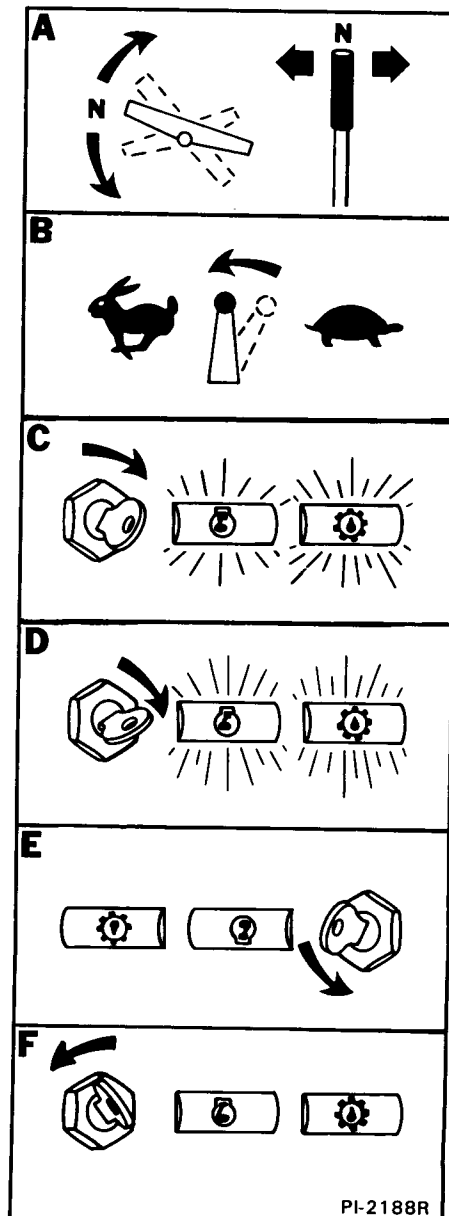

Fig. 23 Starting Procedure
2. Make sure that the controls are in the neutral "CENTER" position (Fig. 23, Item A).
3. Put the throttle at 1/2 throttle position (Fig. 23, Item B) and push the fuel shut off knob in.
4. Turn the key switch to the "ON" position. Check that the engine and the transmission warning lights are illuminated (Fig. 23, Item C).
NOTE: It may be necessary to use the preheat for 30 seconds (Fig. 23, Item F).
5. Turn the key switch to "START" and hold it until the engine starts (Fig. 23, Item D). The engine must start within fifteen seconds. If the engine does not start, preheat again. DO NOT run the starter more than fifteen seconds. Let the starter cool for one minute before engaging the starter again.
When the engine has started, the warning light must go off (Fig. 23, Item E). Stop the engine if the warning lights do not go off. Check for the cause of the problem (See the "Troubleshooting" section of this manual).
2. Turn the key to the left to "PRE-HEAT" position and hold for one minute (Fig. 23, Item F).
3. Turn the key to "START" and engage the starter (Fig. 23, Item D). The engine must start within fifteen seconds. If the engine does not start, repeat Step 2. DO NOT run the starter more than fifteen seconds. Let the starter cool for one minute before engaging the starter again.